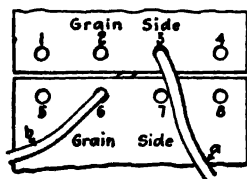

Fig. A-1.
4. Select a lace, a trifle longer than is required, that will pull fairly easy through the holes. Butt the ends of the belt together with edges flush. Put lace up through holes 3 and 6 from the *flesh* side (see Fig. A-1) pulling ends of lace even. Put lace *a* down through